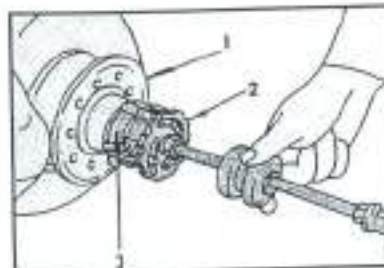

Fig. 4.10 - Removal of the hub grease cap with the special puller (impact hammer).
- Remove the hub grease cup. Normally a puller, as shown in Fig. 4.10, is used. Otherwise you may need an impact hammer, suitably attached to the cap.
- Slacken the clamp nut (2) in Fig. 4.10 with an Allen key as shown in Fig. 4.13, unscrew the nut and remove the thrust washer underneath it.
- Remove the wheel hub from the axle stump. A tight wheel hub can be removed with a slide hammer in a similar manner as shown in Fig. 4.10 or a puller is used. Thoroughly clean all parts of the wheel hub and the axle stump and check for wear.